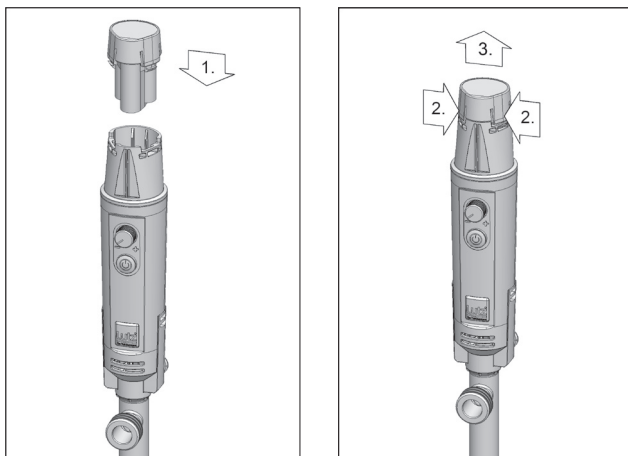

Fig. 4: Motor B1 Battery - installation/removal of the battery
- ▶ Insert the battery into the motor B1 Battery (→ Fig. 4, item 1).
- ▶ When removing the battery, release the lock by pressing it (→ Fig. 4, item 2).
- ▶ Pull out the battery (→ Fig 4, item 3).